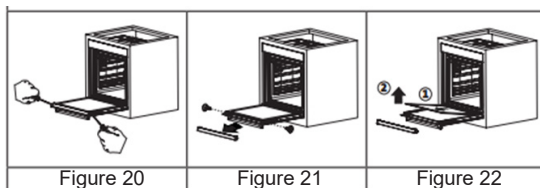

Figure 20 Figure 21 Figure 22
2. Remove the screws on the left and right side as shown in figure 20. Remove the profile by pulling it towards you as shown in figure 21. Glass is free after the profile is removed as shown in figure 22. Carefully pull the glass that has become free toward you. If necessary, the central glass can be removed in the same way. The outer glass is fixed to the oven door profile. You may easily clean the glass after it has been separated. Once the cleaning and maintenance is complete, you may